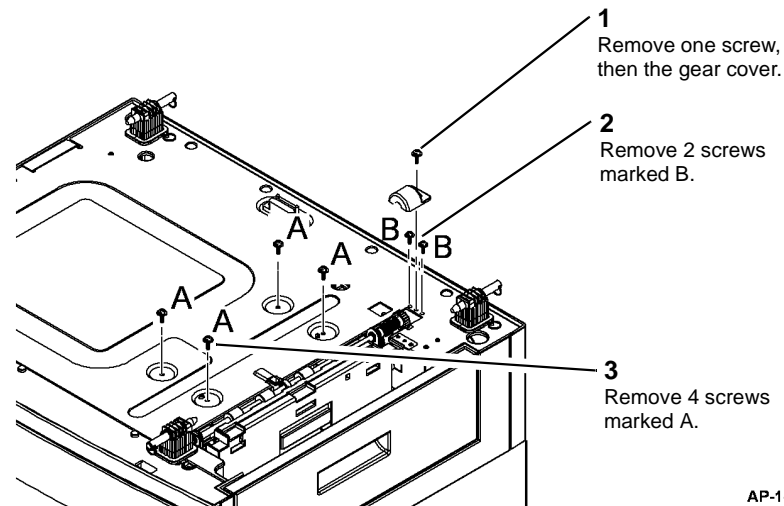

Figure 1 Preparation
9. Prepare to remove the paper transport and tray feed unit, Figure 1.